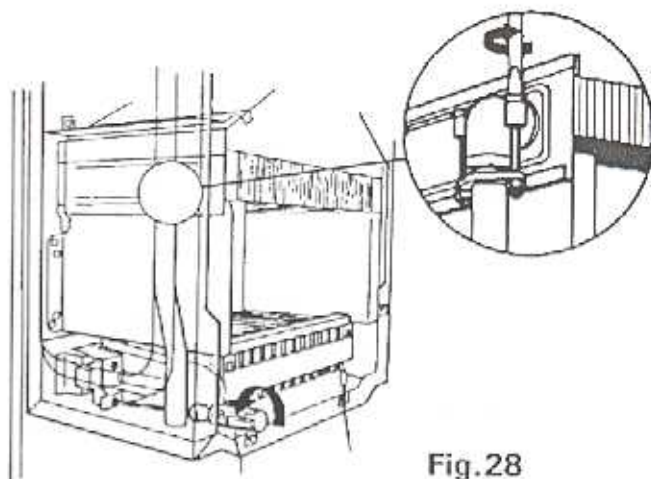

Fig.28
8.6 Main Burner and/or Spark and Sensing Electrodes Part No 5853 Refer to fig 28&29
8.6.4 Remove four burner retaining screws (see fig.28) ease burner forward and rest on chamber base.
- 8.8.8 Disconnect upper flanges by removing 2 screws on each flange (Fig.28). Undo unions for the flow and return pipes below the room sealed chamber, lower the pipes and slide out main heat exchanger, taking care not to damage insulation panels. Avoid spillage of water on boiler electrics.